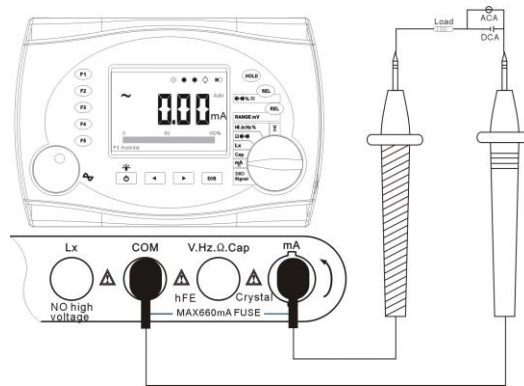

Fig17: Fig of mA measurement
2. Connect the test leads as the connection of Fig17 and the indicator in the screen. Plug the black test lead to the COM jack and the red into the **mA** jack.